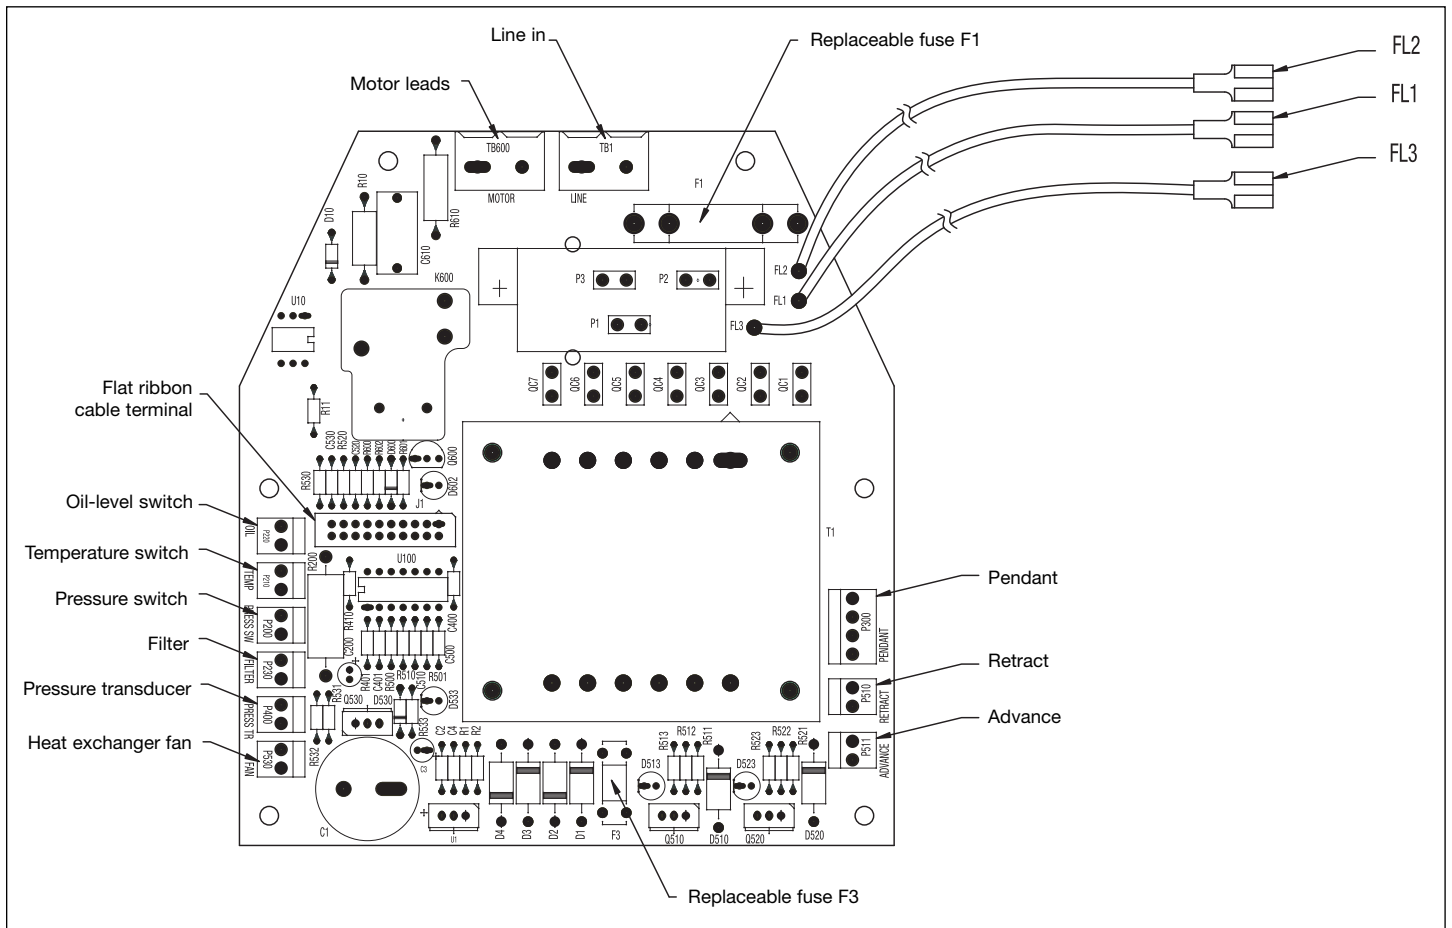

Figure 11, Electric Power Board Configuration
The pressure transducer, heat exchanger, pressure switch, pendant / foot switch, valve solenoids (A) and (B) are supplied with connectors that plug into the proper plug-ins found on the electrical power board (Figure 11).
Disconnect unit from power supply before opening electrical box. Remove LCD half and one small hole plug from back panel. Route wire through back panel, connect to power board (see figure 11), and secure strain relief. Install shroud half.
Disconnect unit from electrical power supply before opening electrical box. Remove LCD half and one small hole plug from back panel. Route pressure switch wire through back panel, connect to power board (see figure 11), and secure strain relief. Install shroud half.